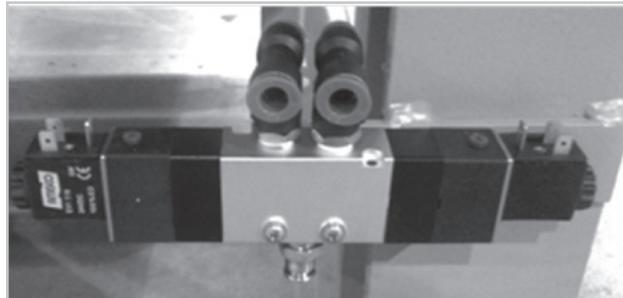

Figure 88
- Inspect all air lines and solenoid valves to make sure there is no air leaking (Figure 88).